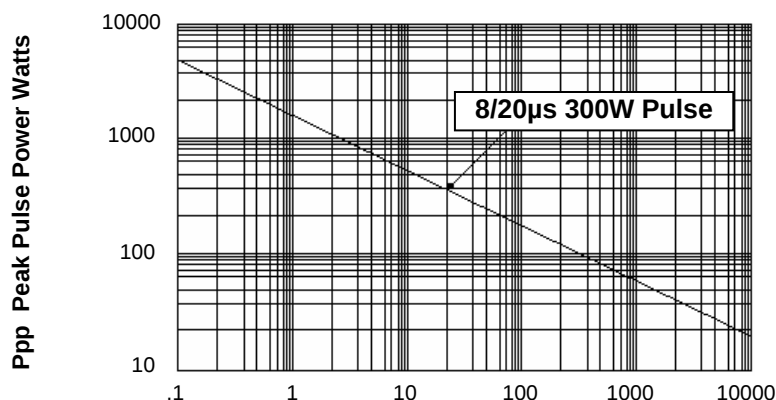

FIGURE 1
- Peak Pulse power 300 watts (8/20 μ s Figure 1)